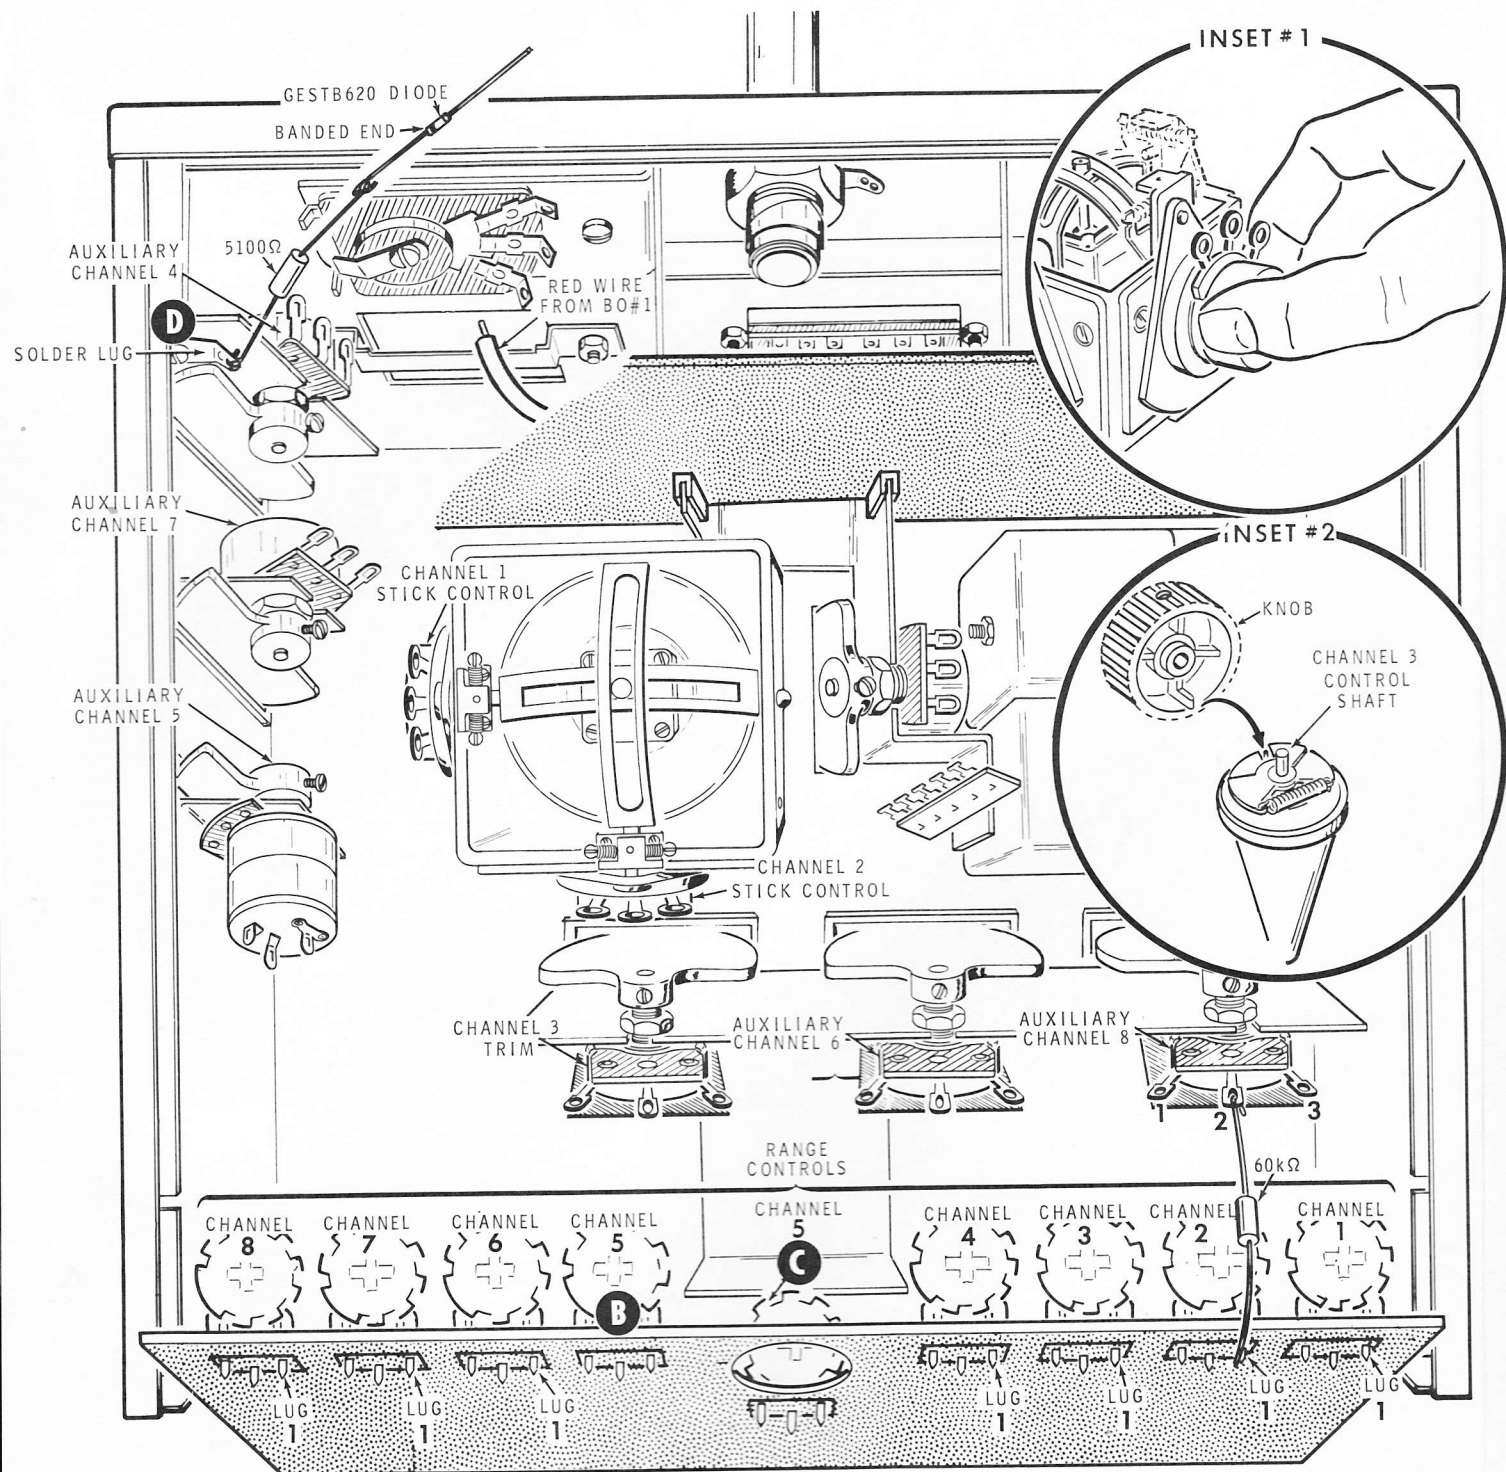

Figure 1-3
Refer to Figure 1-3 (on the fold-out from this page) for the following adjustments.
- () Connect the red meter lead to lug 1 of the channel #1 Range control. Then grasp the body of the channel #1 Stick control in your fingers (or a pair of pliers) and turn the control body until the meter reads the same as in the previous step. (Refer to the inset drawing #1 on Figure 1-3.)
- () Refer to inset drawing #2 on Figure 1-3 and remove the control stick knob.